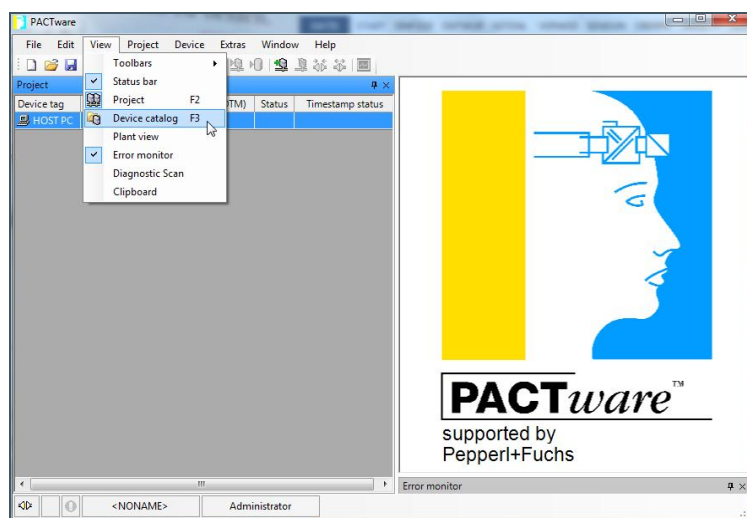

Figure 44: Open device catalog
- 2) Click **View > Device Catalog** to open device catalog (see: Figure 44: Open device catalog).